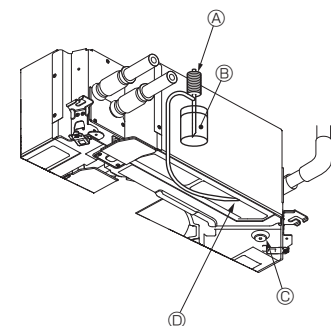

Fig. 7-6
7.4. Check of drainage (Fig. 7-6)